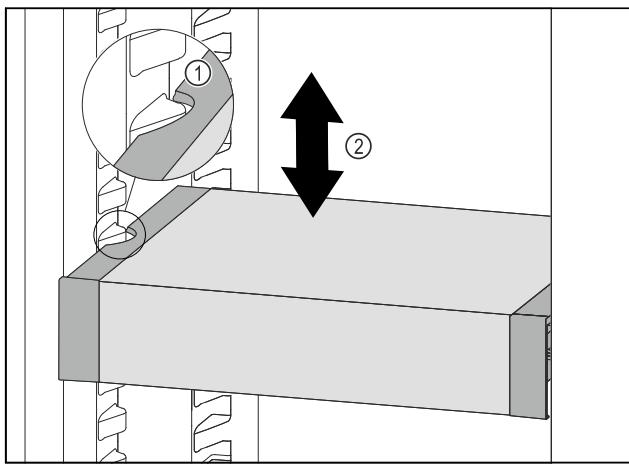

Fig. 87
- ▶ Pull VarioSafe forwards until the recesses in the side of the VarioSafe are at the level of the support rib in the refrigerator compartment. Fig. 87 (1)
- ▶ Move VarioSafe up or down in the refrigerator compartment until the desired height is reached. Fig. 87 (2)